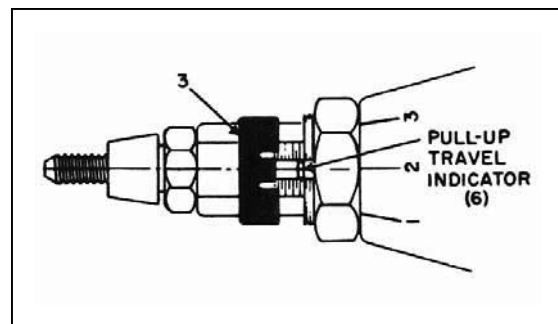

Figure 8 - Visual Indicators - At Completion of Fastener Installation
3. Unthreading cycle returns pull-up travel indicator to original position (fig 8). Thread engagement indicator will stay in "out" position until returned by hand for another inspection.